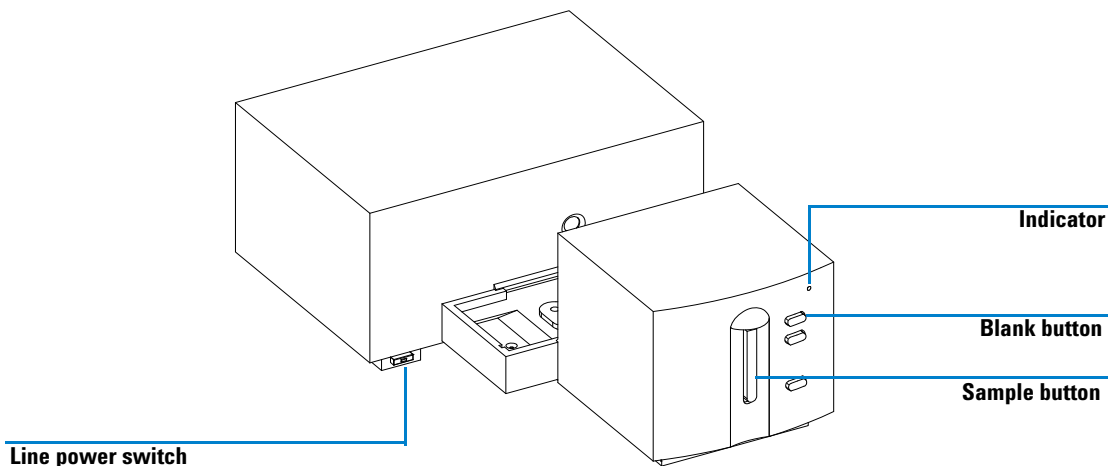

Figure 5 Turning on the Agilent 8453E UV-visible Spectroscopy System
The spectrophotometer is 34.4 cm (13.5 inches) wide, 56.0 cm (22.0 inches) deep and 18.5 cm (7.3 inches) high (see Figure 5 on page 22). It weighs only 14 kg (30.86 lbs) so it will fit on almost any desk or laboratory bench. It needs an additional 2.5 cm (1.0 inches) of space on either side to allow for the circulation of air for cooling and approximately 8 cm (3.1 inches) in the rear for electrical connections.
- 3 Fill the Quartz cell, which is shipped with the system, with distilled water and take a blank measurement by pressing the *Blank* button at the front of the instrument (see Figure 5 on page 22). Empty the cell and fill it with the caffeine sample which is also shipped with your system. Take a sample measurement by pressing the *Sample* button at the front of the instrument (see Figure 5 on page 22). Press the F6-key (*Graphic*) to display the spectrum on the screen of your handheld controller. The spectrum should resemble the one shown in Figure 6.